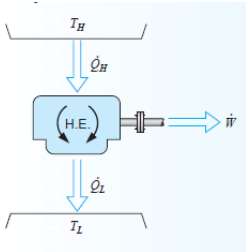

Figure 1
- (b) The heat engine shown schematically in Figure 1, receives a heat transfer rate of 1 MW at a high temperature of  $550^\circ\text{C}$  and rejects energy to the ambient surroundings at 300 K. Work is produced at a rate of 450 kW. How much energy is discarded to the ambient surroundings and the engine efficiency and compare both of these to a Carnot heat engine operating between the same two reservoirs [BL: Apply| CO: 2|Marks: 7]